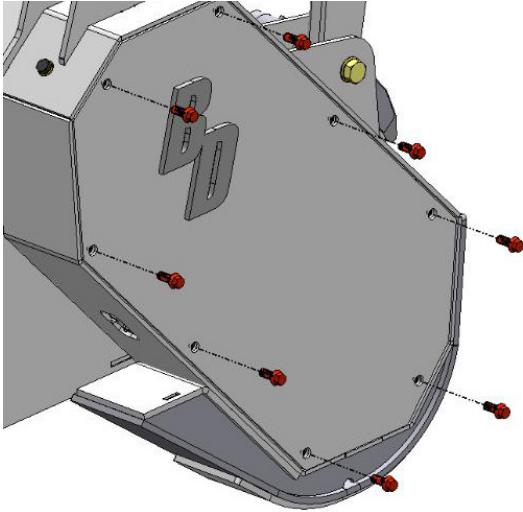

Figure 13
1. Remove eight (8) bolts on the drive belt access panel to open. See Figures 13 and 14.